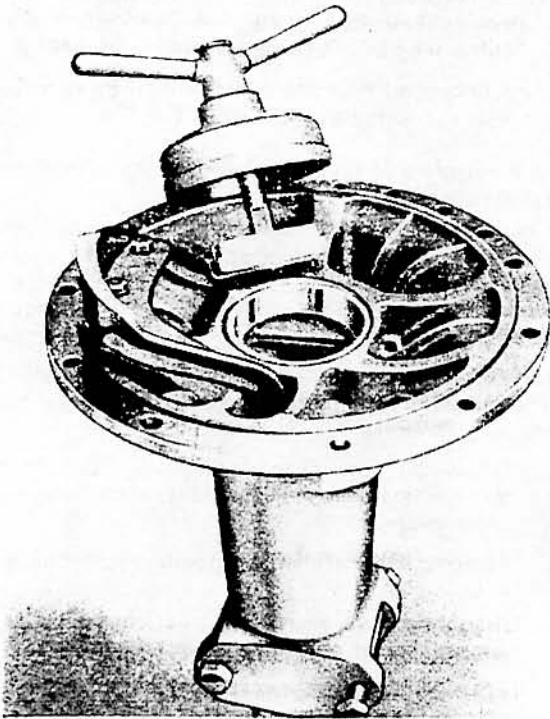

FIG. 5 USE OF MF.32A
5. Remove inner oil seal and differential bearing cup, using Service Tool MF.32A as shown in Fig. 5.